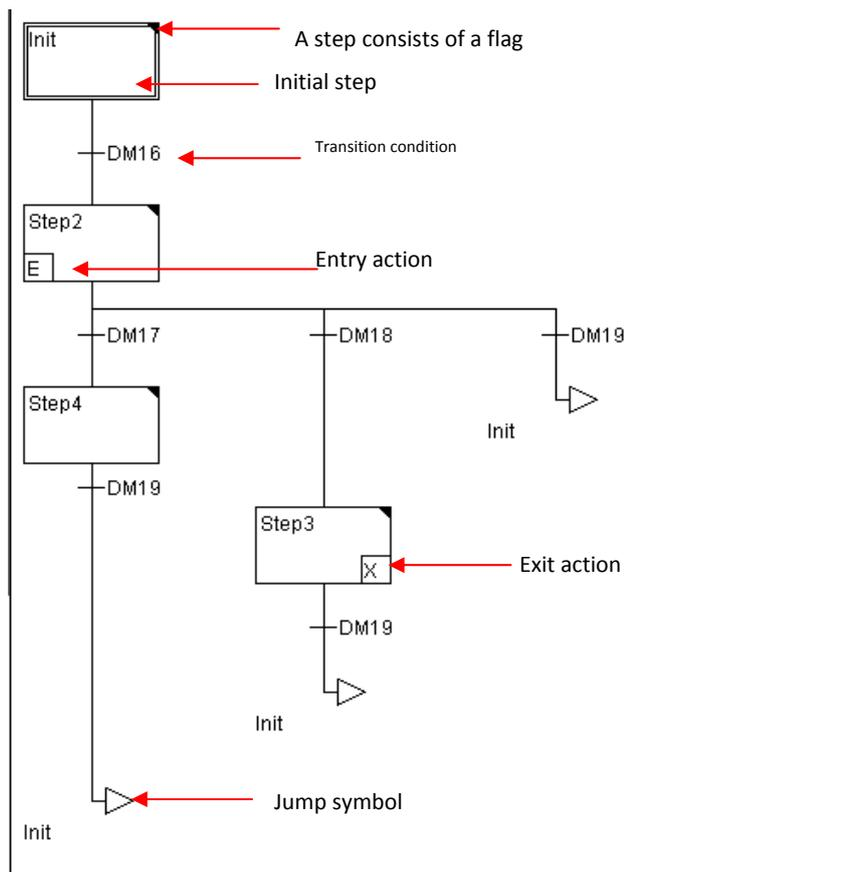

Figure 9-4-7 Explanation of SFC
- Figure 9-4-7 illustrates an application example in SFC.